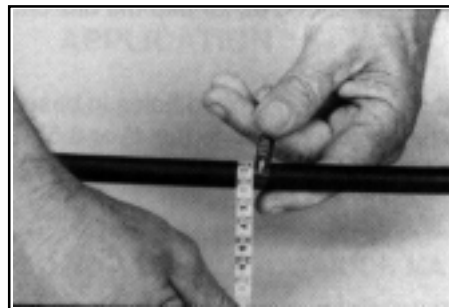

FIGURE 5 – WRAP CABLE MEA-SURE TAPE AROUND CABLE
- Wrap it around the cable tightly. (Figure 5)
- The number indicates the correct number of layers of half-lapped LOCK-TAPE Sealant. (Figure 5)